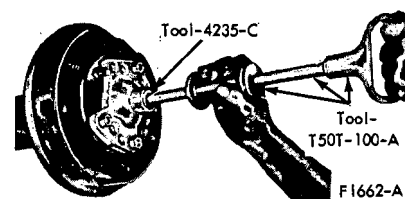

FIG. 1 Removing Axle Shaft
3. Working through the hole provided in each axle shaft flange, remove the nuts that secure the wheel bearing retainer plate. Then pull the axle shaft assembly out of the axle housing (Fig. 1). The brake backing plate must not be dislodged. Install one nut to hold the plate in place after the axle shaft is removed.